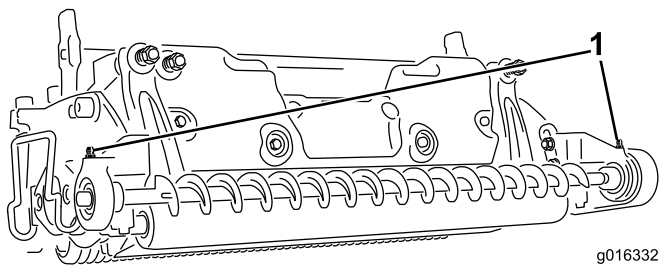

Figure 13
16. Lubricate the bearing housing grease fittings with No. 2 lithium grease; see Figure 13.